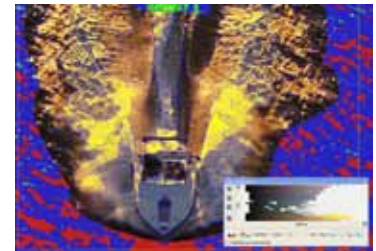

Fig. 19 - When clicked with the **Color Sampler** tool, selected hues have a yellow highlight. Press [Shift] to add more hues to the selection.
23. Choose the **Color Sampler** tool (S).
24. Click a portion of the wash that should be kept. Notice that all pixels of that hue are given a yellow highlight to indicate they are selected (Fig. 19).